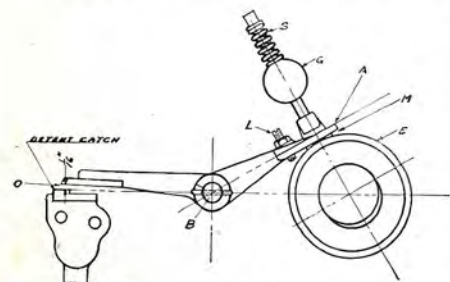

Fig. 7
With the governor weight (G) in **this** position (see Figure 6), the exhaust push rod is held forward keeping the exhaust valve open. With the exhaust valve open, no suction is produced by the movement of the piston, therefore, no charge is drawn into the cylinder. With a load on the engine, the speed will quickly lower slightly and the governor spring (S) will push the governor weight (G) nearer the shaft (see Figure 7). With governor weight in this position, the coil detent spring will raise point (P) out of the catch and then allow the roller to follow the cam (see Figure 7) allowing the exhaust valve to close and a charge to be drawn into the cylinder. The power from this explosion tends to increase the speed causing the governor weight (G) to move outward and again force the detent point (P) into the catch (C), (Figure 6). When the engine is heavily loaded it may require several successive explosions to bring the engine up to the set speed.
On the 2½ H. P. engine, turn fly wheel until detent (C) is in position as shown in Figure 7. Then place a piece of cardboard or thin sheet metal in opening "O." Then adjust detent screw "L" so that the point touches firmly on the main bearing cap. Be sure to tighten lock nut securely. With detent in this position, there should be a slight clearance at "M."